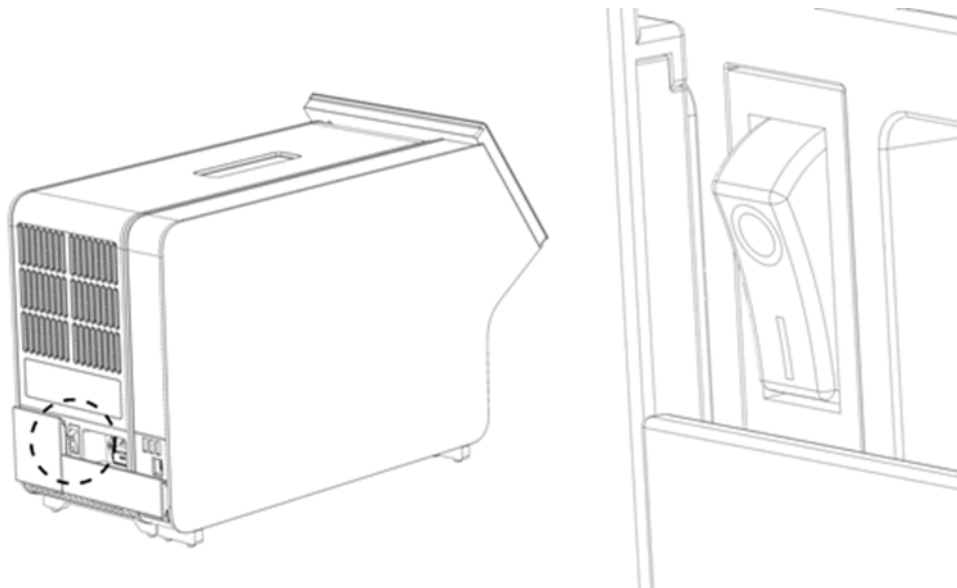

Figure 11. Locating the power switch and setting it to the "I" position.
9. To power ON the instrument, press the power switch on the back of the Analytical Module to the "I" position (Figure 11). Confirm that the status indicators of the Analytical and Operational Modules are blue.